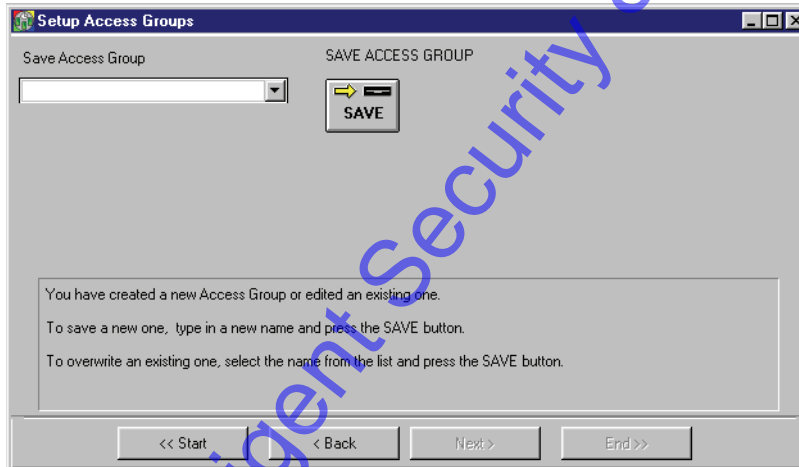

Figure 3-37: Save Access Group Window
- Click on the  button and the Save Access Group window appears (see Figure 3-37).